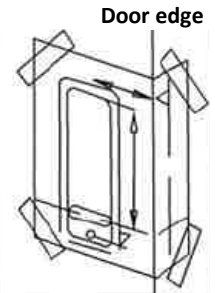

Figure 1
- Correctly position and tape the template, T/036/SBL365.SL, to the internal door face, at the desired height from the floor level. Ensure that the relevant, marked, door edge on template is correctly aligned with actual door edge. (Figure 1)